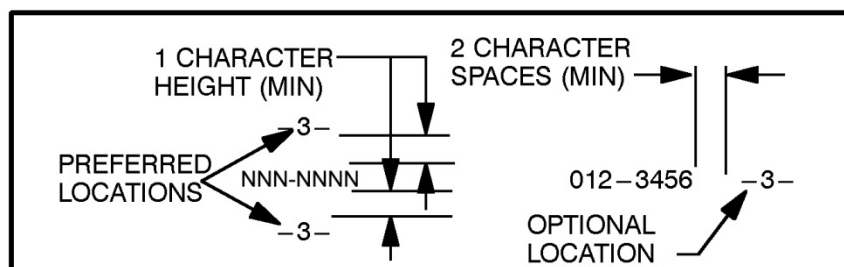

Figure 6 - Change Number Locations
6.1 When the note "**PART NO. AND CHG () MIN SIZE ()**" is designated on the drawing, the change number shall be positioned on the part in one of the locations as shown in Figure 6. A dash shall precede and follow the change number.